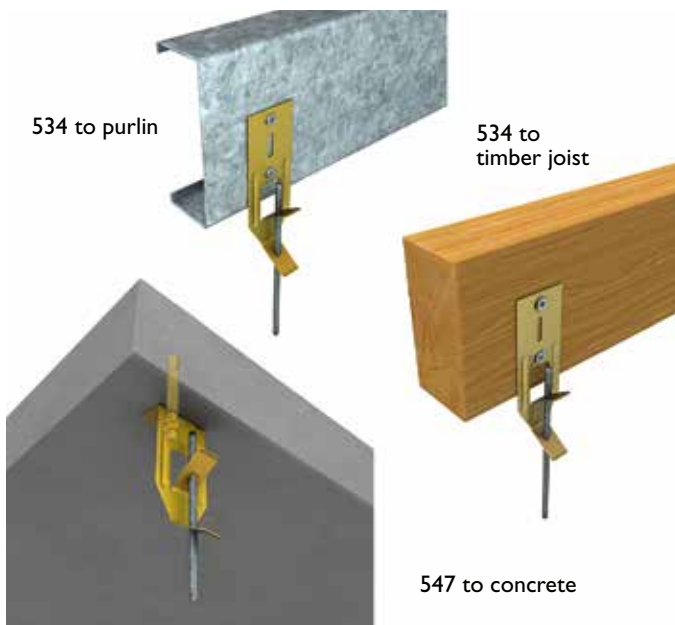

FIGURE 6: HANGER CLIPS
3. Cut 121 suspension rod to required length and slide into hanger clip tabs. Refer Figure 6.